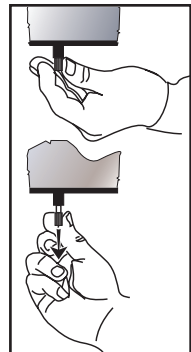

Figure 2.
2. Pull tab, left side (fig. 2).